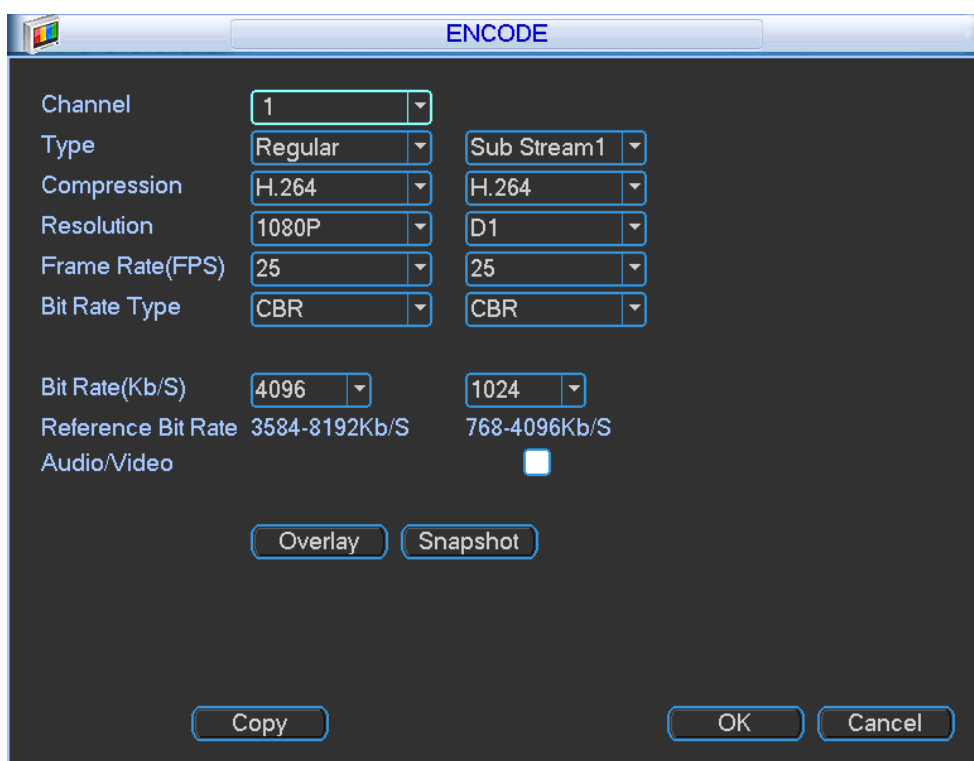
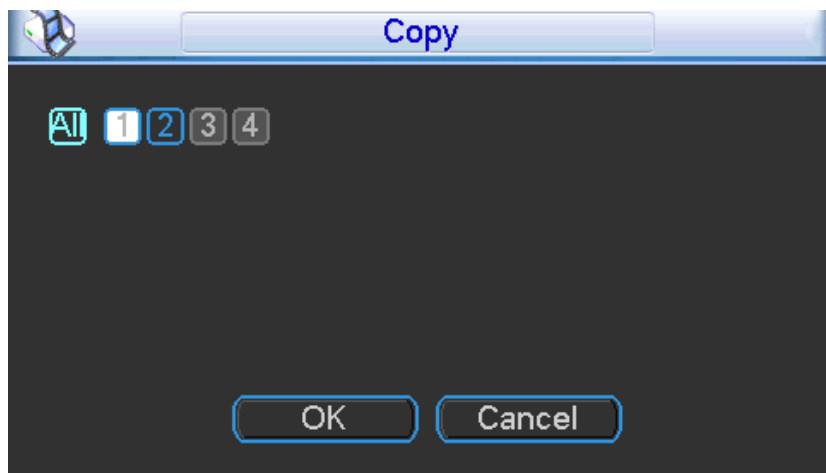

Figure 4-42
Figure 4-46
Encode setting includes the following items. See Figure 4-42.
- Copy: After you complete the setup, you can click Copy button to copy current setup to other channel(s). You can see an interface is shown as in Figure 4-46. You can see current channel number is grey. Please check the number to select the channel or you can check the box ALL. Please click the OK button in Figure 4-46 and Figure 4-42 respectively to complete the setup.